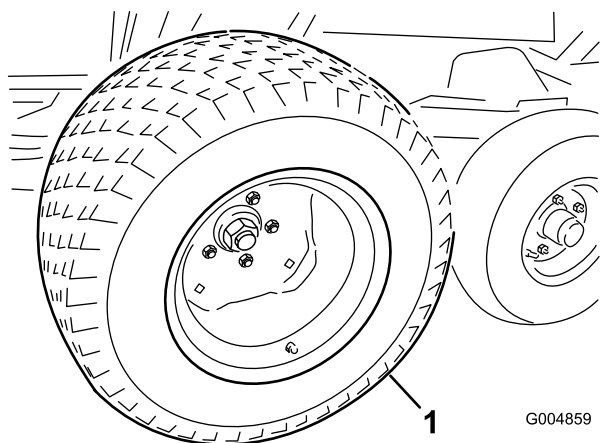

Figure 47
8. With the winter frame against the rear frame, raise the floor jack enough to remove the summer drive tires (Figure 47). Install the winter tires with 2 lug nuts per side.